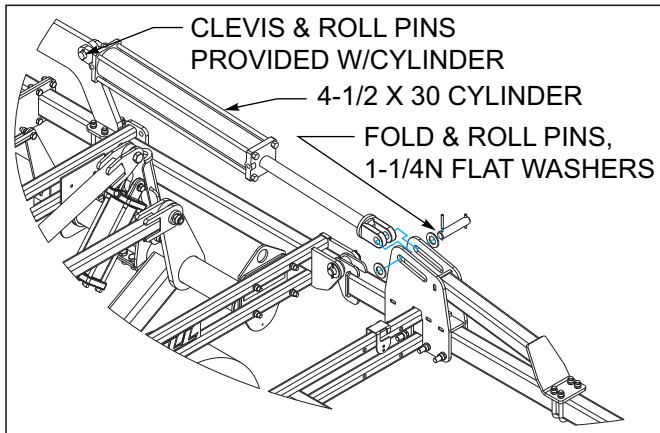

Figure 3-6: Fold Cylinder Installation
1. Attach the base end of each 4-1/2 x 30 hydraulic cylinder to the fold cylinder mount on the center frame with clevis and roll pins provided with each cylinder as shown in See Figures 3-6. Position the cylinders so the hydraulic ports point to rear on front cylinders and to front on the rear cylinders.
2. Using 1-1/4 x 6-1/8 fold pin, 1-1/4N flat washers, and 5/16 x 2-1/2 spring slotted pins, attach the rod end of the 4-1/2 x 30 cylinders to the slotted mounts on the wing frames See Figures 3-6.